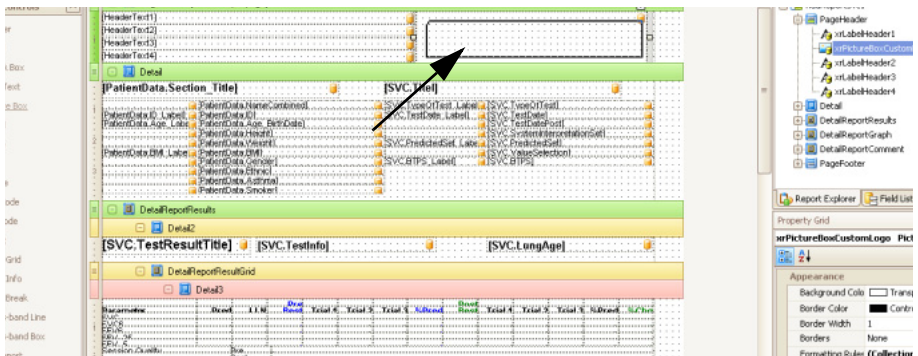

Fig. 12-5: Positioning the frame
- Insert the frame in the appropriate position (Fig. 12-5:).